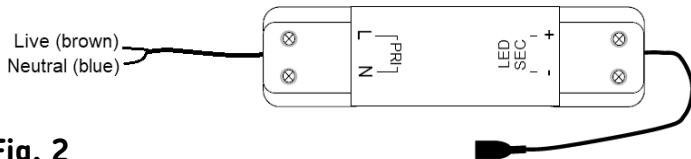

Fig. 2
- Connect the driver to the mains supply ensuring that correct polarity is observed (see Fig.2): L – Live (Brown), N – Neutral (Blue)